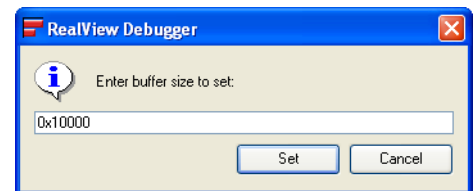

Figure 3-1 Setting the size of the trace buffer
1. Select **Set Trace Buffer Size...** from the **Edit** menu to display the Prompt dialog box. Figure 3-1 shows an example: